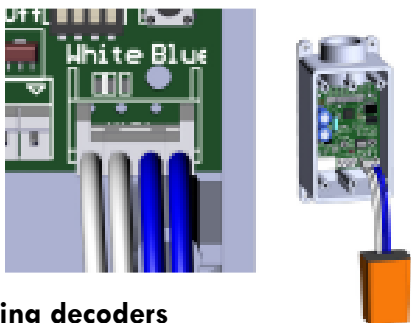

Figure 7
1. Connect the decoder or master valve to the 3D programming connectors (see Figure 7).